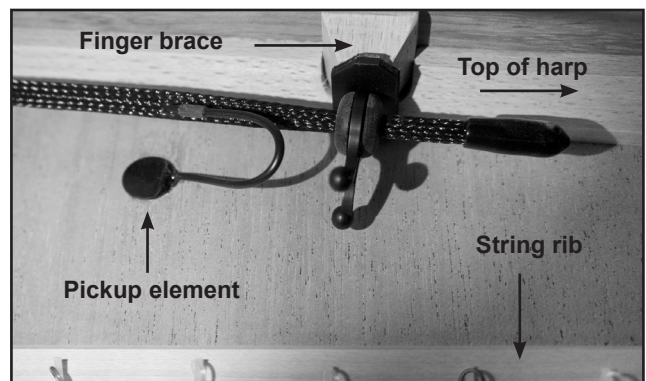

Figure 8 – FH36S Pickup Element and Lead Wire
- f. For the FH36S, because the harness clips attach to the finger braces instead of the soundboard lining, the pickup element lead wires will bend downward, toward the bottom of the harp (see figure 8).